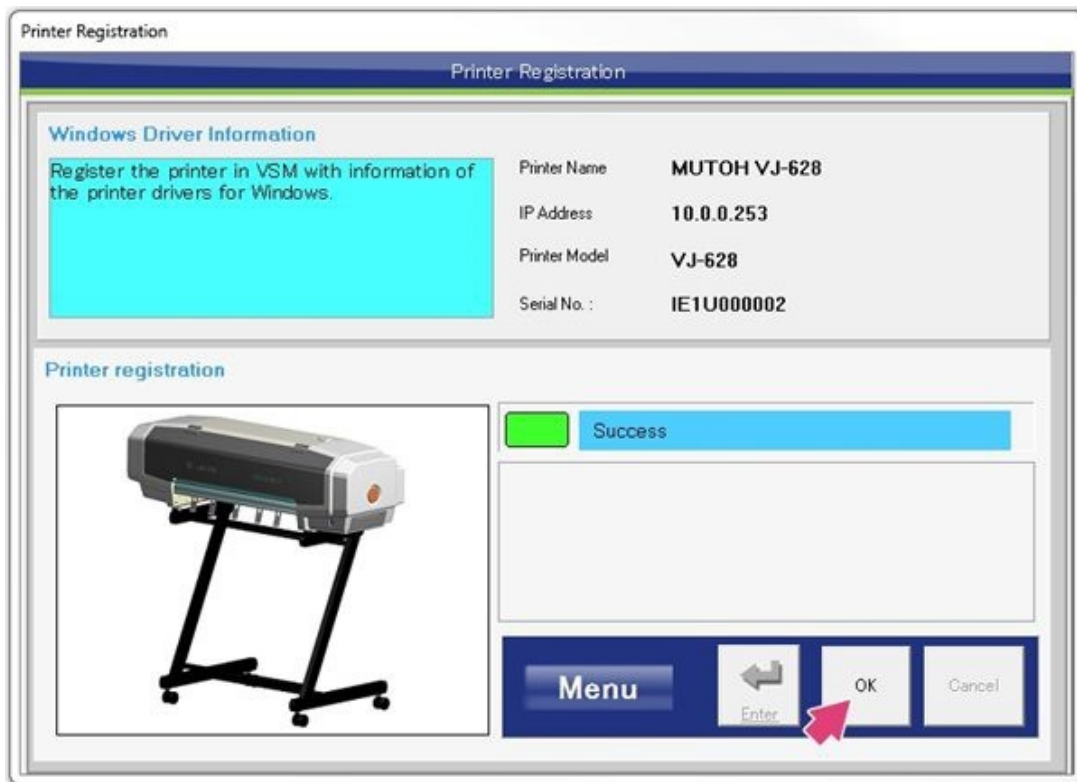

Figure 44
31. Registration will show as successful when the process is complete. Select **OK** to begin the ink and media installation. See Figure 44.